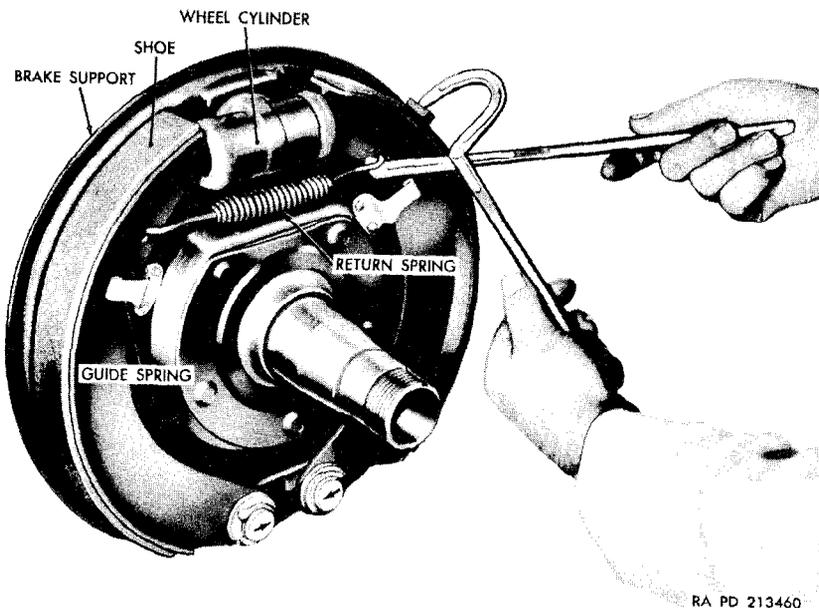

Figure 185. Removing brakeshoe return spring.
- (1) Remove the brakeshoe return spring, using brake spring pliers (fig. 185).
Release the shoes from the guide springs and wheel cylinder (fig. 185) and remove the shoes.
d. Remove Wheel Cylinder (fig. 185).
- (1) If the inlet fitting was removed (*e*(4) above), install a new fitting on the brake line.
- (2) Position the cylinder on the brake support (fig. 185), being sure to use the correct cylinder (*a* above). Install the two $\frac{5}{16}$ -inch lockwashers and $\frac{5}{16}$ -18NC x $\frac{5}{8}$ bolts from the rear side of the brake support (fig. 185). Tighten the two bolts.
- (3) Position the inlet fitting on the wheel cylinder and install the gasket and bolt. Tighten the bolt.
- (1) Apply a film of lubricant on the brakeshoe cams and inner sides of the guide springs. Position the two brakeshoes on the support plate with each shoe engaged in the guide spring (fig. 185) and the upper ends of the shoes in the boots at each end of the wheel cylinder.
- (2) If the C-washers and oil washers were removed from the anchor bolts (*e*(3) above), install a new C-washer on each bolt. Apply a film of lubricant to the anchor bolts and install an oil washer retainer and oil washer on each bolt.
- (4) Engage one end of the brakshoe return spring in the hole in one of the brakeshoes and engage the other end in the opposite hole, using brake spring pliers and a rubber pad (fig. 185).
- (5) Remove the wheel cylinder clamp.